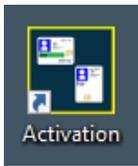

Figure 30: Activation Icon
1. Open the Unattended Activation Program. Click the **Activation** icon on the workstation Desktop as shown in Figure 30: Activation Icon